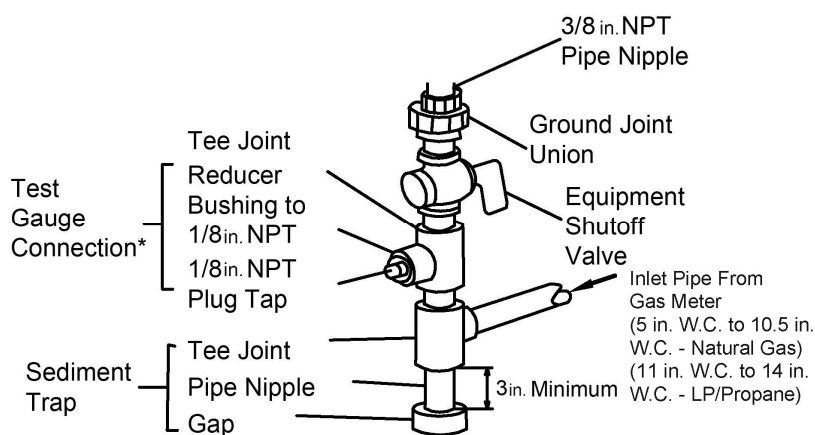

Figure 7 – Gas Connection
**⚠ CAUTION:** Use only new black iron or steel pipe. Internally tinned copper tubing may be used in certain areas. Check your local codes. Use pipe of ½ inch diameter or greater to allow proper volume gas to heater. If pipe is too small, loss of pressure will occur. Installation must include an equipment shutoff valve, union, and plugged 1/8-inch NPT tap. Locate NPT tap within reach for test gauge hook up. NPT tap must be upstream from heater (see Figure 7).